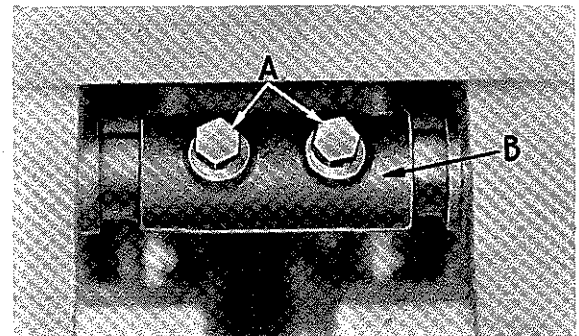

Fig. 11
To adjust the feed dog across the line of feed, loosen the feed rocker set screws (A, Fig. 11) and move the feed rocker (B) in the required direction to center the needle in the feed dog needle hole.